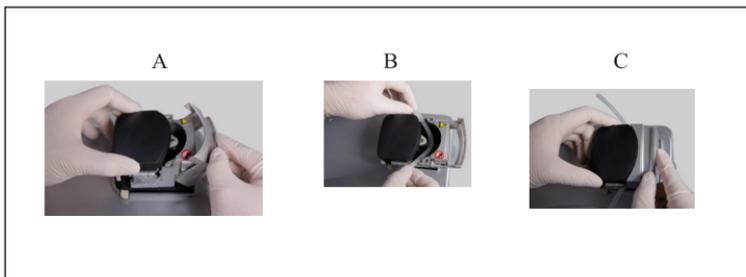

Fig.5
The foot switch of the ULTRASURGERY must not be activated when the door of the peristaltic pump open. (Fig.5—Ref.B).Moving parts could injure the operator.
- a) Open the door(Fig.5—Ref.A)as far as it will go.
- b) Position the tube in the impeller(Fig.5—Ref.B).
- c) Close the door completely(Fig.5—Ref.C).
The footswitch of the ULTRASURGERY must not be activated when the door of the peristaltic pump open. (Fig.5—Ref.B).Moving parts could injure the operator.